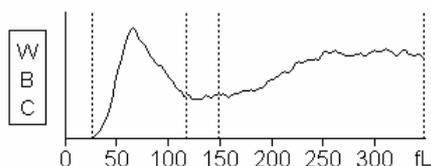

Figure 5-29 WBC gain too large
- When WBC histograms of most samples are similar to Figure 5-29, it implies too large a WBC gain and you need to decrease the gain appropriately.